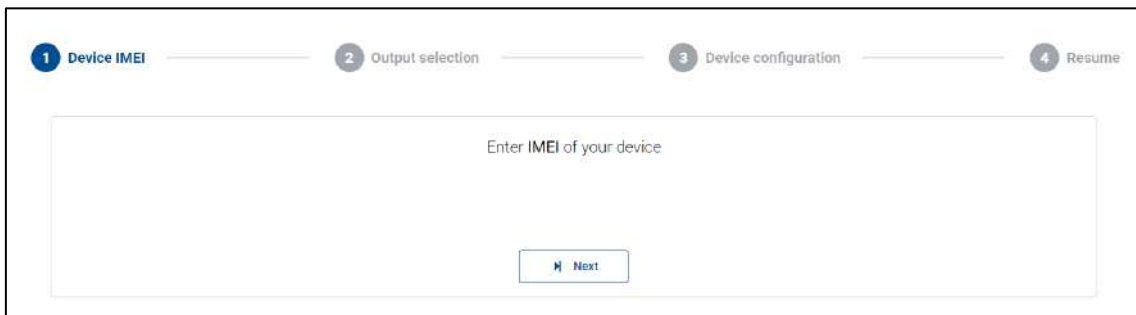

Figure 14 IMEI entry
(1) Enter the IMEI of your device (see Figure 14) (unique 15-digit number – you can find it on a sticker on the side of your device).